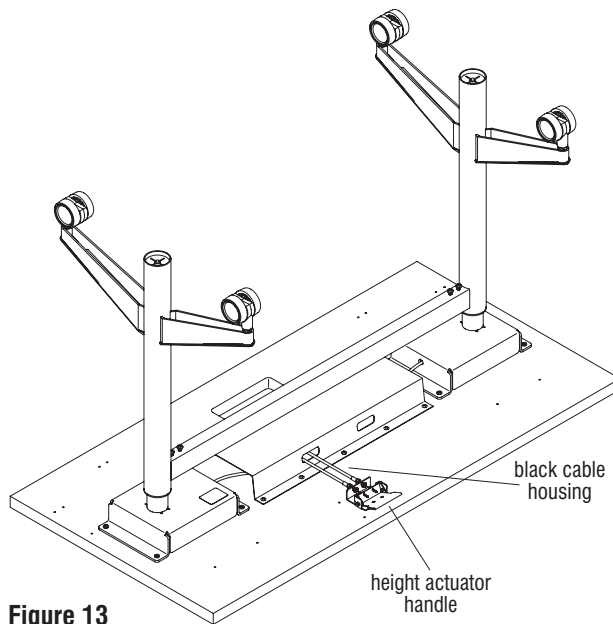

Figure 13
32. Begin "Test 1" adjustments by moving under the table or carefully placing the table upside down on a soft, protective surface to gain access to the height actuator handle and cables (Figure 13). Inspect the hex ends of both cables in the actuator handle slots and conical indent and identify if one or more are not nested properly, and handle is not tight (Detail U). Loosen the appropriate top M8 nut using the  $\frac{7}{16}$ " wrench provided while pulling down on the black cable housing and twist the nut up as required. Holding the cable housing down, twist the bottom nut up finger tight, enough to assure that the hex cable end is seated correctly into the conical indent of the actuator handle, and the handle is tight down against the actuator bracket. Use the  $\frac{7}{16}$ " wrench to turn the bottom M8 nut one-quarter to one-half of a turn more to tighten. (Detail V). Check to assure the cables are tight, or repeat the above process.